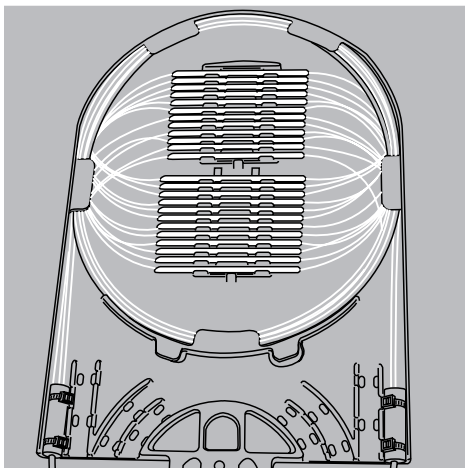

FIGURE 18
- Continue the practice until the splice tray has been filled (24 splices). Introduce additional splice trays as required. (Figure 18)